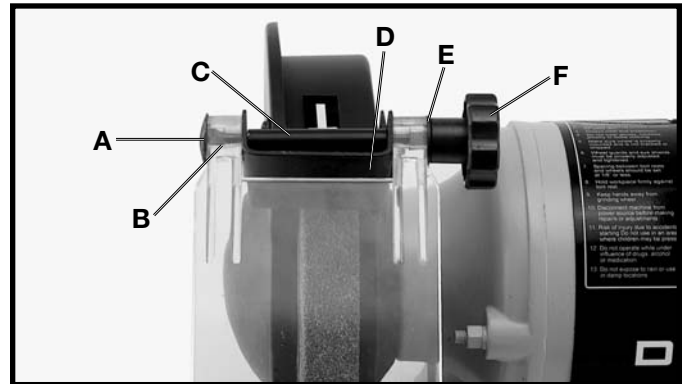

Fig. 8
3. Insert the eye shield bolt (A) Fig. 8, through the hole in the eye shield (B), eye shield spacer (C), and spark guard (D).
4. Place a 1/4" flat washer (E) Fig. 8, onto the end of the eye shield bolt and fasten the eye shield knob (F) to the end of the eye shield bolt.